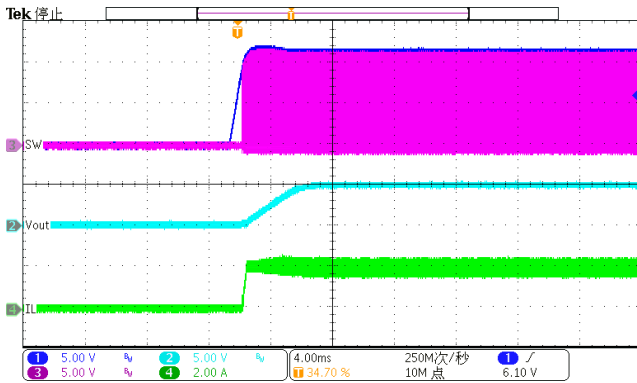

Figure 10. Power up ($I_{LOAD}=2A$)
The SCT2320E features external programmable output voltage by using a resistor divider network R1 and R2 as shown in the typical application circuit Figure10. Use equation (7) to calculate the resistor divider values.